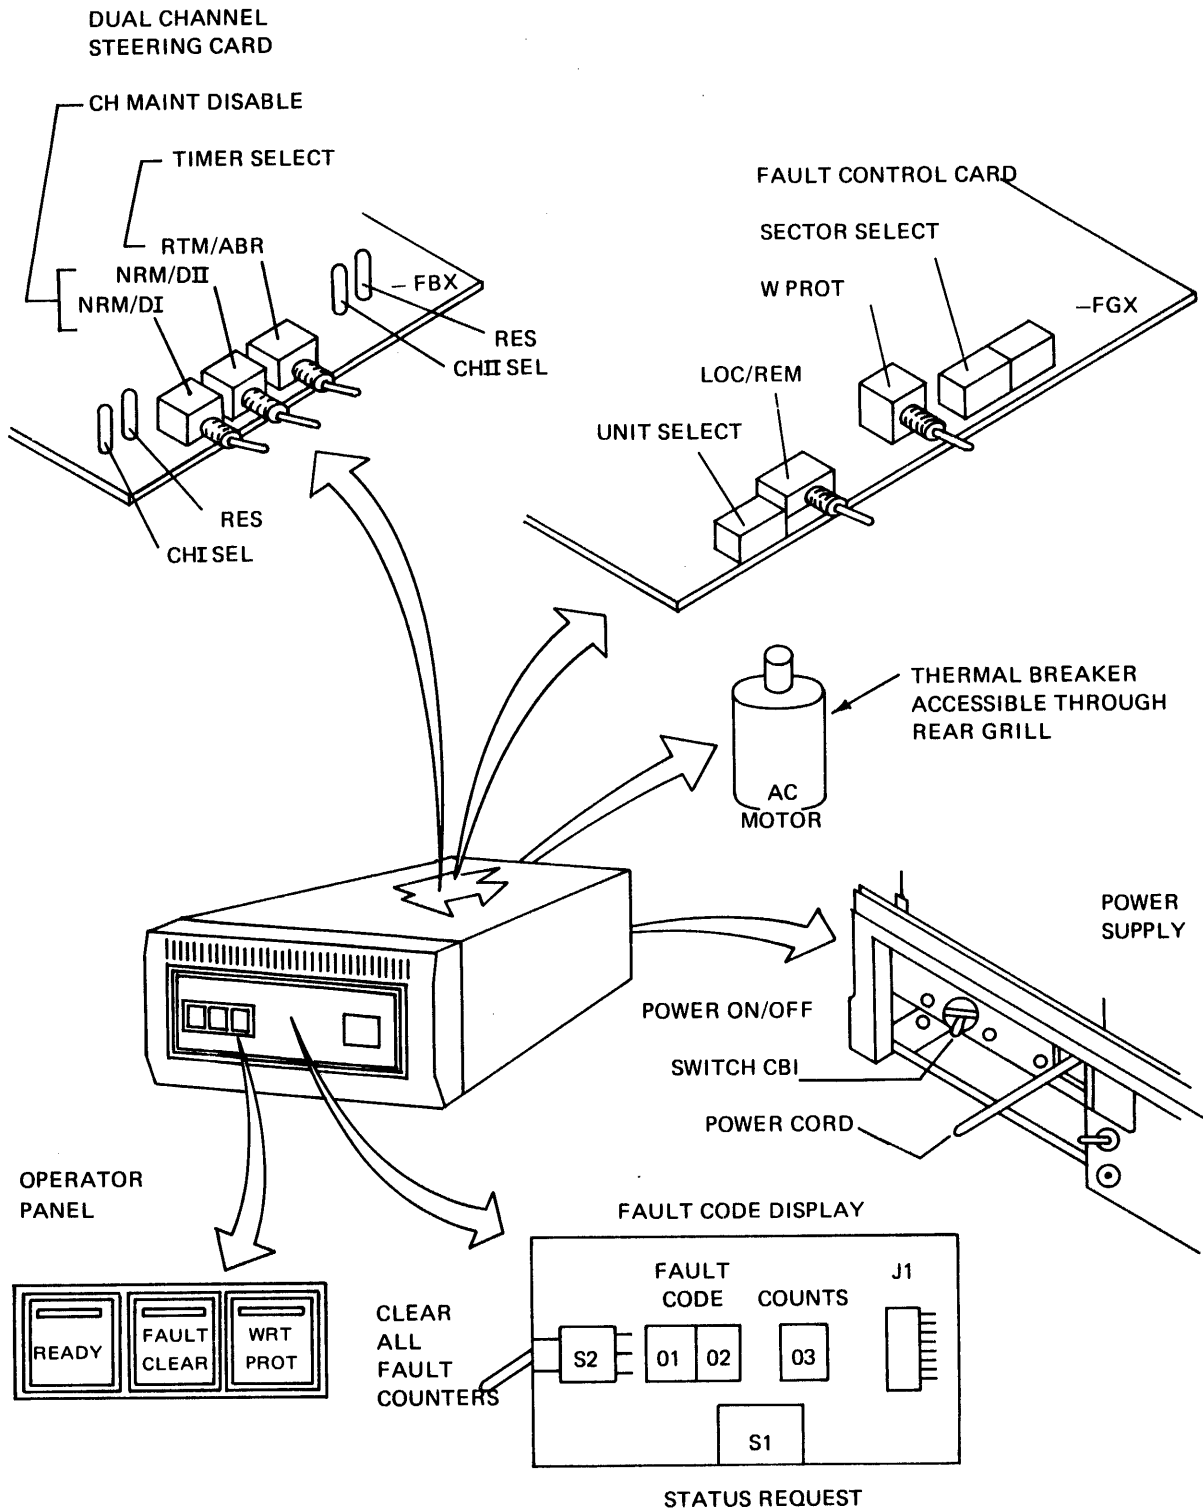

Figure E-3 Switches and Indicators (MSM80-F)
E.1.2 Switches and Indicators for MSM80-F Systems (See Figure E-3)
The fault conditions listed in Table E-1 are stored within the microprocessor card. These faults are displayed, along with the number of occurrences, behind the front panel (see Figure E-3). The use of the fault status request button allows the operator to sequence through all of the existing faults.